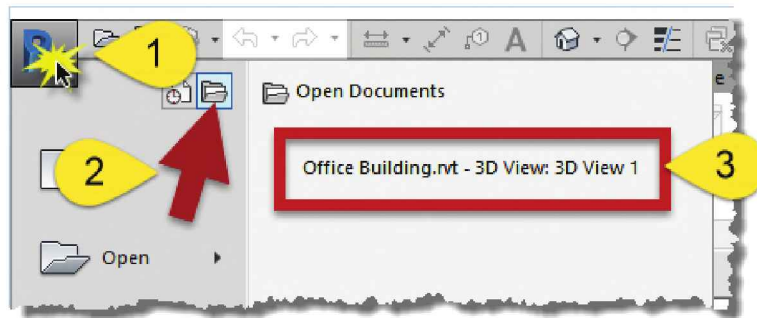

FIGURE 1-3.4 Application Menu: Open Documents view
The *Application Menu* lists the projects and views currently open on your computer (Figure 1-3.4).
4. Click **Application Menu** → **Open Documents (icon)** (Figure 1-3.4).